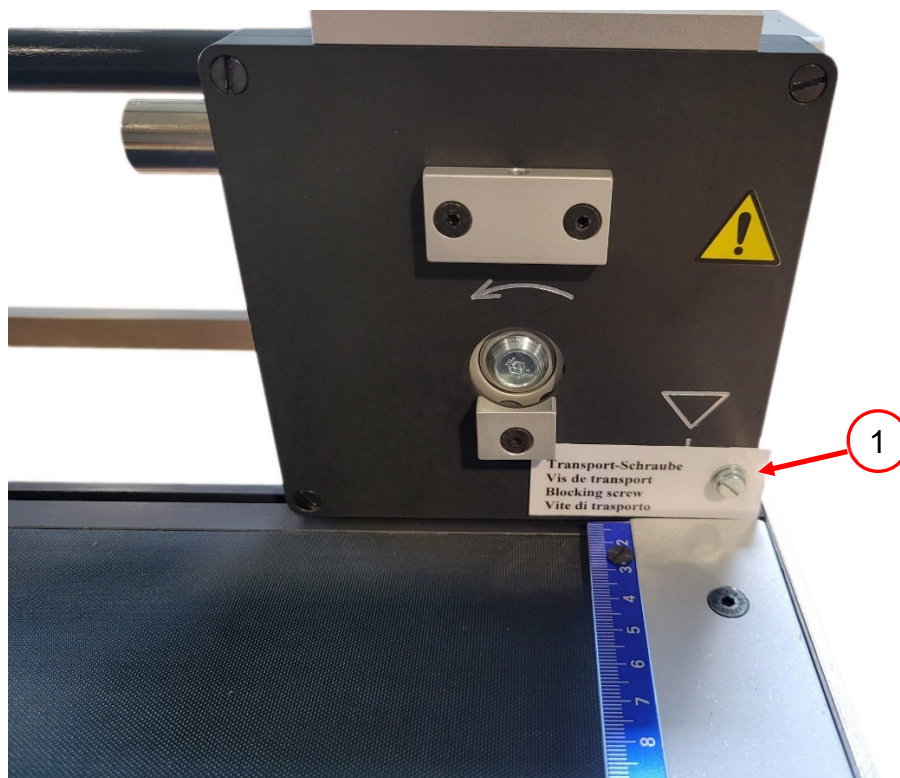

Figure 42 Remove transport screw and plastic ring VARGA VA 1
11. Remove the transport screw and plastic ring (1, Figure 42). For storage, screw them back into the same hole from behind